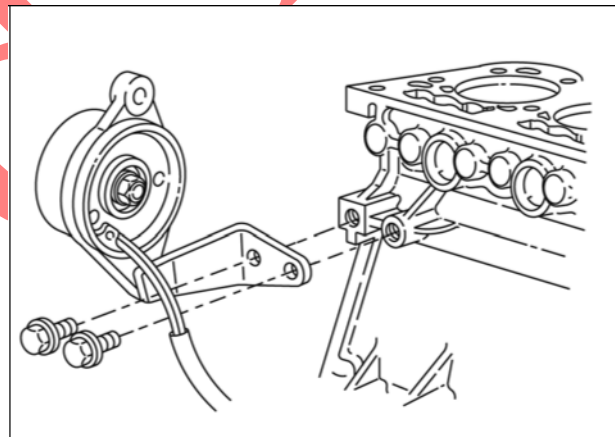

Figure 20
1. Install alternator bracket and alternator (Figure 20).